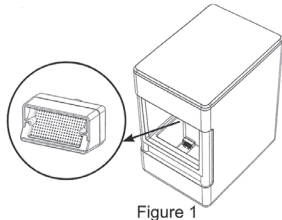

Figure 1
2. Remove water filter (if present), and replace with the reservoir's screened intake cap. See Figure 1